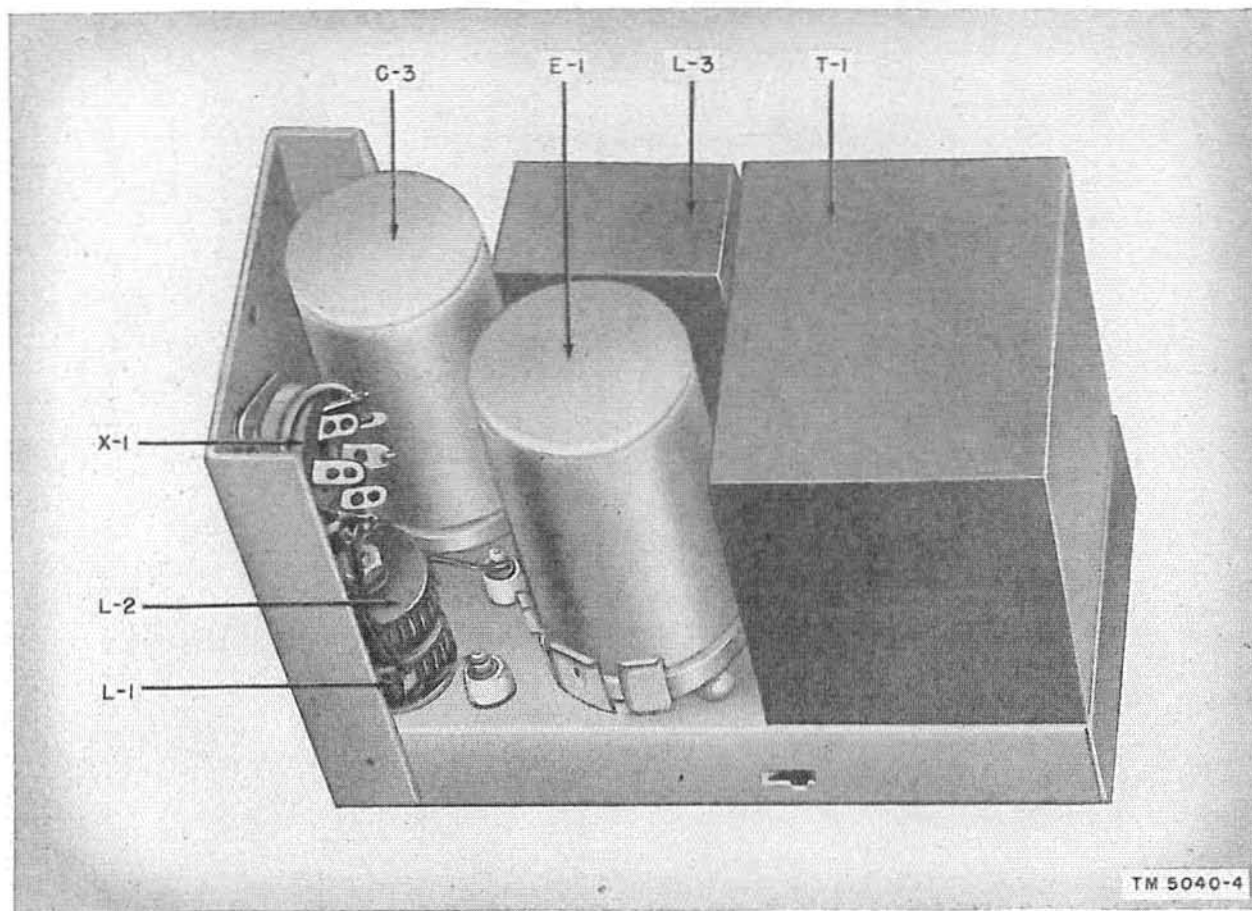

Figure 61. Power supply PP-282/GRC, top view of chassis.
- (1) Check the vibrator in the plug-in vibrator supply within the receiver (figs. 61 and 71 and par. 128.)
be replaced as a single unit, the plug-in power supply is not furnished as a running spare. However, a spare is provided for the vibrator within the power supply (fig. 61). Remove the amplifier case and replace the vibrator as follows:
- (1) Loosen the clamp at the rear of the power supply compartment and swing it out of the way.
- (2) Grasp the handle at the rear of the power supply unit and pull straight out.
- (3) Remove the three green screws which fasten the top cover on the power supply chassis.
- (4) Using the handle on the cover, lift the cover off with a straight upward movement. If the cover is stuck, use a small
- (5) Pull the vibrator (fig. 61) out of its socket with a straight upward movement. Do not rock or jiggle the vibrator while attempting to remove it from its socket. If necessary, use a small screw driver to gently pry the vibrator out of its socket, but take care not to enlarge the ring clip which holds the vibrator near the base
d. PLUG-IN POWER SUPPLY. Although it can be replaced as a single unit, the plug-in power supply is not furnished as a running spare. A spare is provided, however, for the vibrator within the power supply (fig. 61). Remove the receiver case and replace the vibrator as follows:
- (4) Using the handle on the cover, lift the cover off with a straight upward movement. If the cover is stuck, use a small screw driver and gently pry the cover.
- (5) Pull the vibrator (fig. 61) out of its socket with a straight upward movement. Do not rock or jiggle the vibrator while attempting to remove it from its socket. If necessary, use a small screw driver to gently pry the vibrator out of its socket, but take care not to enlarge the ring clip which holds the vibrator near the base.